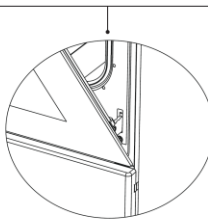

Fig. 9.1
3. Then close the door so that it is in contact with the hinge lock, as shown in Figure 9.1.